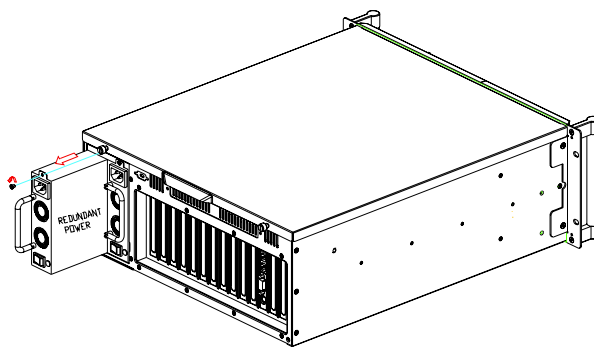

Figure 3.9: Replacing the power supply module
3. Loosen the screw on the failed module and then grab the handle to gently pull it out. (see Figure 3.9)